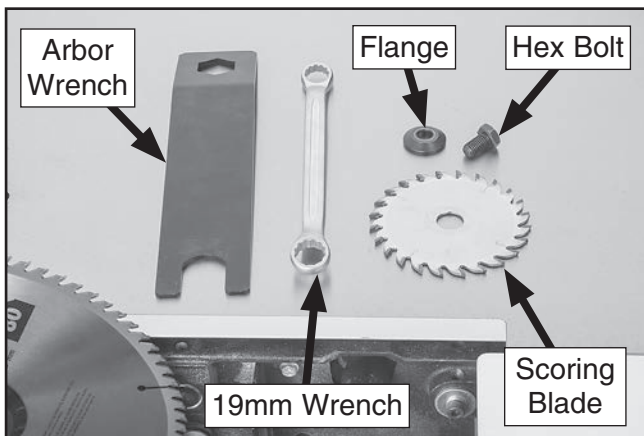

Figure 88. Scoring blade, flange, arbor hex bolt, 19mm wrench, and arbor wrench.
- Loosen arbor hex bolt counterclockwise (left-handed threads), and remove arbor hex bolt, flange, and blade (see **Figure 88**).